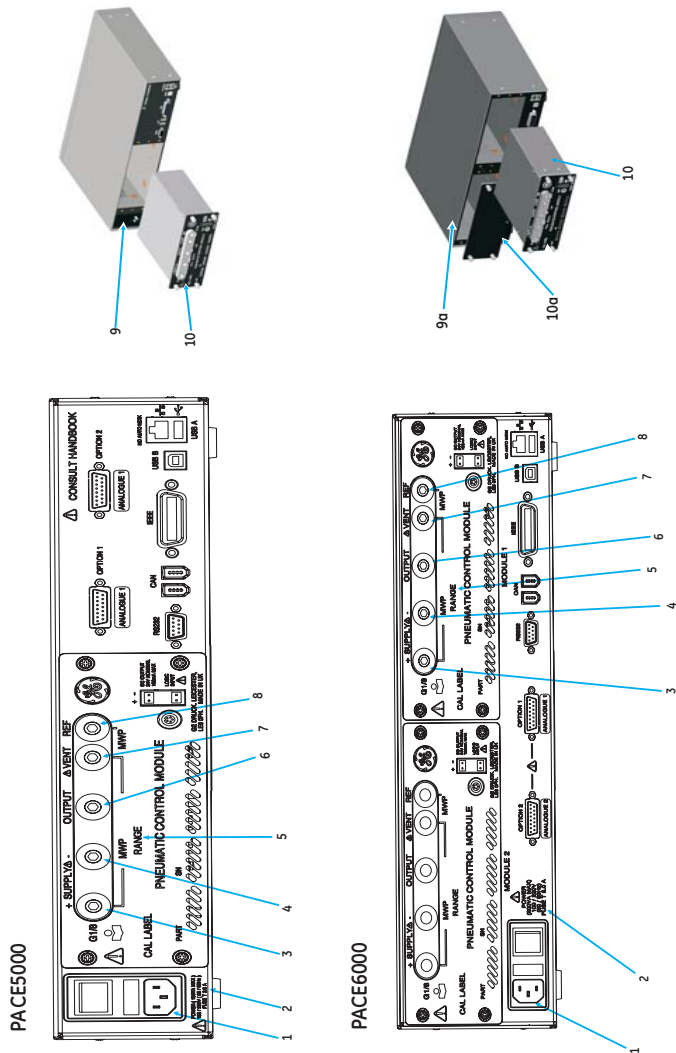

Figure 1
Key to Figure 1
- Do not apply pressures above the Maximum Working Pressure (MWP) stated on the rear panel (Ref: Figure 1, item 5).
- Do not apply electrical power above the maximum values stated on the rear panel (Ref: Figure 1, item 2).
To protect the control module (Ref: Fig 1, item 10), from over-pressure a suitable protection device (such as a relief valve or bursting disc) must be fitted to limit the applied supply pressure to below the MWP (Ref: K0443 User Manual).